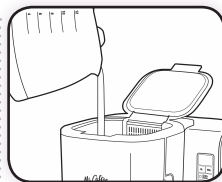

Figure 29
- Fill the water reservoir with clean, fresh water. (figure 29)